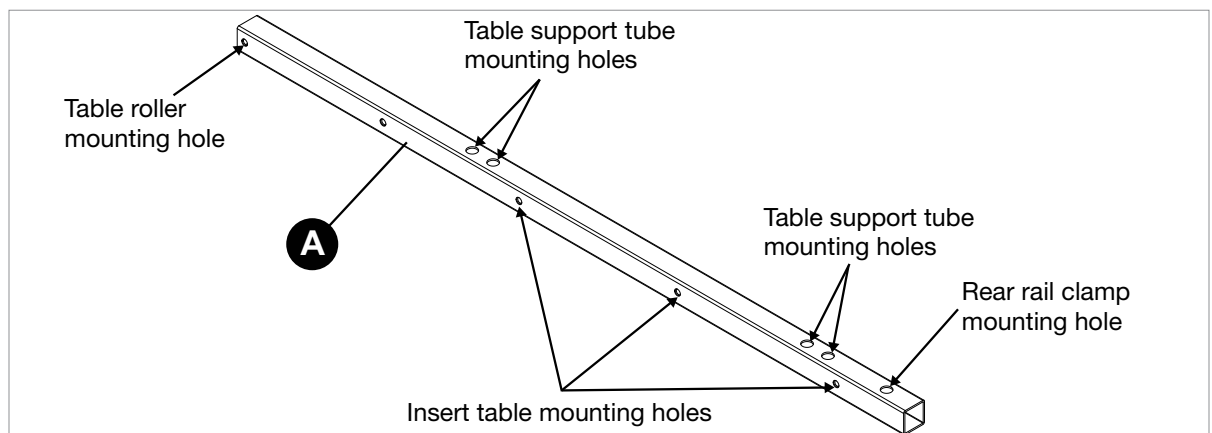

Fig. 1
The first step in assembling the Folding Outfeed Table is to assemble the three table rollers (E and F) and attach two table tubes (A) to each table roller. There are five holes in the top and bottom surface of each table tube: one solitary hole and two sets of two holes paired together, and the end with the solitary holes goes near the table saw. The sets of paired holes are used to mount the table tubes (A) to the table support tubes (B), and the solitary holes are used to attach the rear rail clamps (K) (see Fig. 1 for reference).
The rear three holes on each side of the table tubes are used for mounting the insert table (see Fig. 1 below for reference).